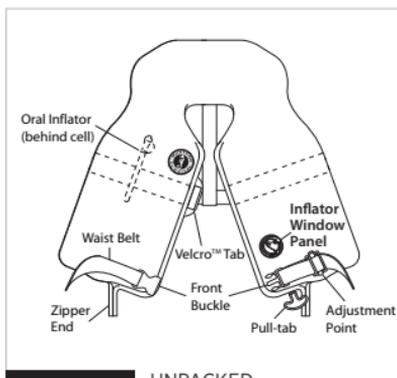
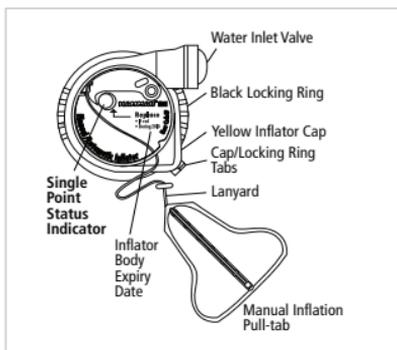

FIGURE 1 UNPACKED INFLATABLE PFD
FIGURE 2 MD3183 AND MD3184
1. Examine the single point status indicator through the window panel (Fig. 1). Ensure the indicator is green. If the indicator (Fig. 2 for MD3183 and MD3184, or 2a for MD3181) is red, the mechanism has been fired or is incorrectly fitted (see Re-arming Your PFD, p. 9).
- Single point status indicator is green (Fig. 2 or 2a).
3. Examine the single point status indicator (Fig. 2 or 2a on p. 4). If the indicator is red, the mechanism has been fired and the inflator requires service (see Re-arming Your PFD, p. 9).